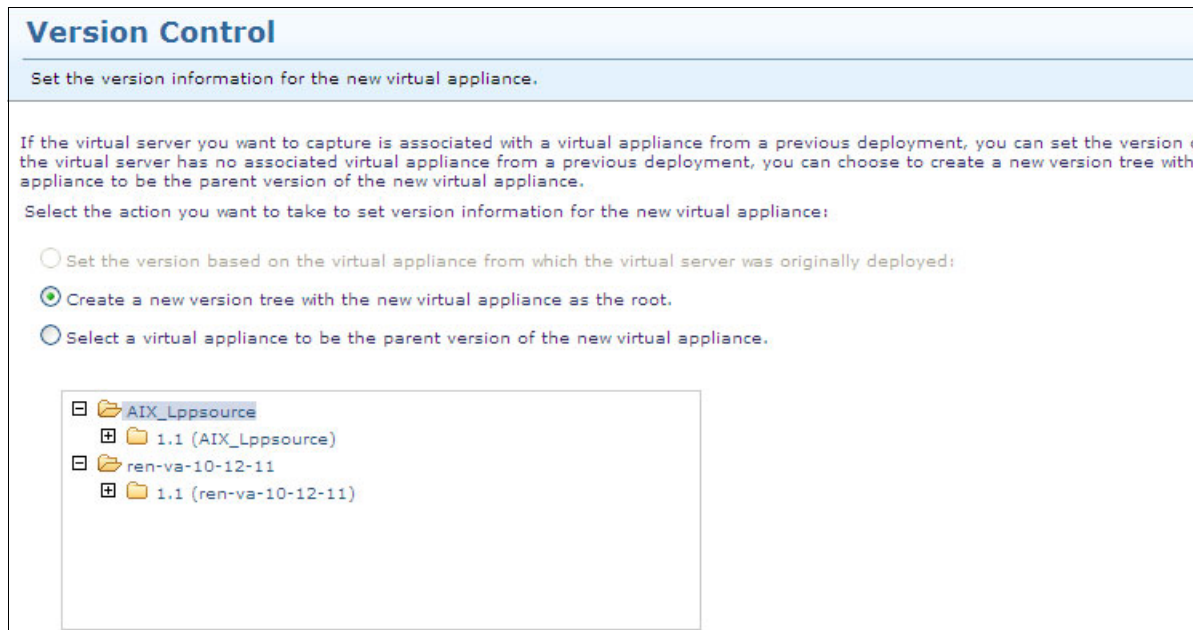

Figure 10-123 Version Control window
6. Select the version as shown in Figure 10-123.